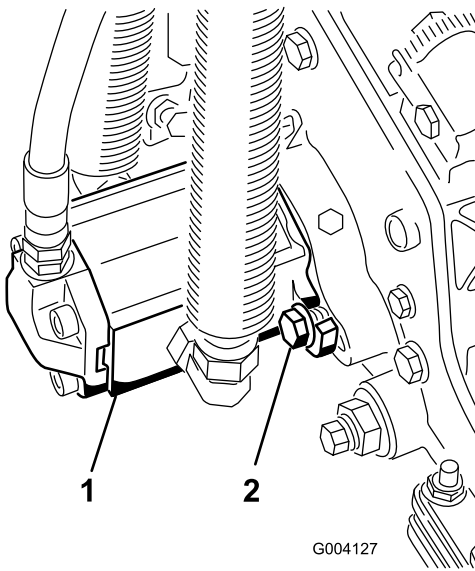

Figure 14
10. Install the motor by rotating it clockwise so that the motor flanges clear the cap screws (Figure 14).